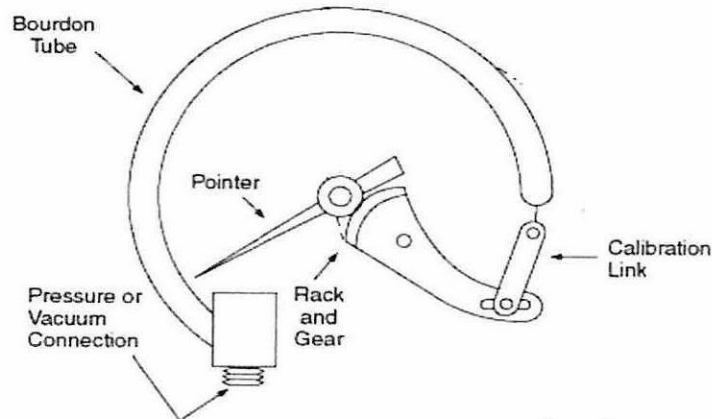

Figure Q2.1: Bourdon Tube.
- (iii) Examine the function of Level Controller (LC) and Flow Transmitter (FT). (3 marks)
- Q2** (a) List at least **THREE (3)** types of flow measurement method in process control. (3 marks)
- (b) Based on **Figure Q2.1**, explain the operation of bourdon tube for pressure measurement.